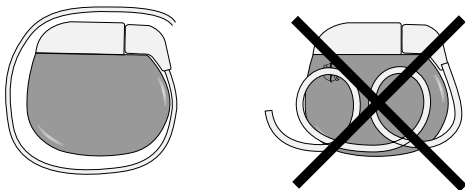

Figure 3. Wrap excess extension around the perimeter of the neurostimulator.
- Do not coil excess extension in front of the etched identification side of the neurostimulator. Wrap excess extension around the perimeter of the neurostimulator (Figure 3) to avoid increasing subcutaneous pocket depth, help minimize potential damage during neurostimulator replacement surgery, help minimize potential kinking of the extension, and minimize interference with telemetry during programming.